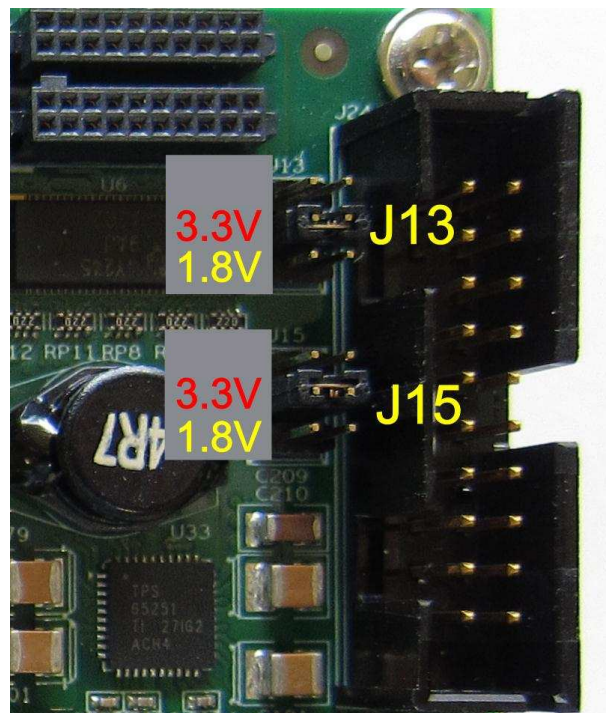

Figure 1-11. DLP LightCrafter 4500 J13 and J15 Voltage Jumpers
- J13: DLPC350 TRIG1_OUT voltage selection. See to Figure 1-11.
- J15: DLPC350 TRIG2_OUT voltage selection. See to Figure 1-11.